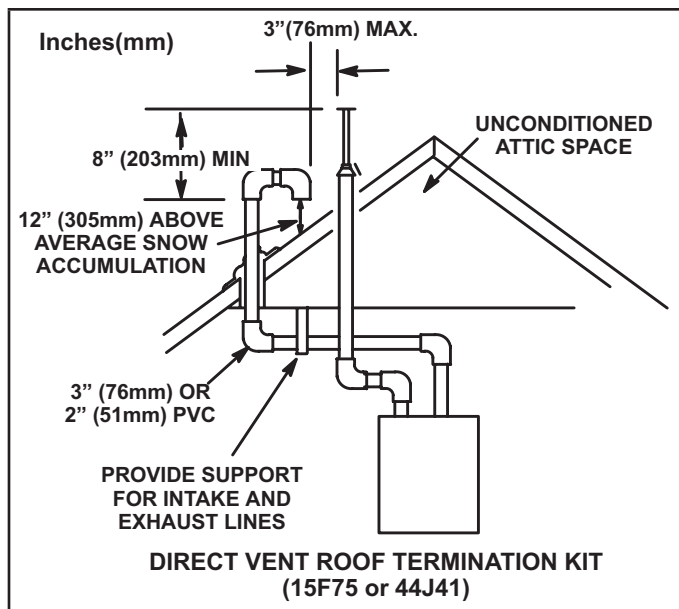
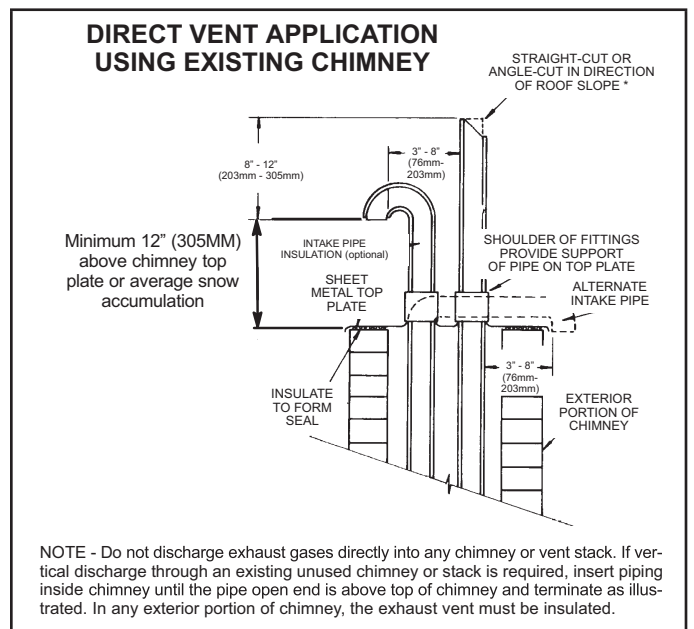

FIGURE 31
FIGURE 39
Intake and exhaust pipes may be routed either horizontally through an outside wall or vertically through the roof. In attic or closet installations, vertical termination through the roof is preferred. FIGURE 31 through FIGURE 39 show typical terminations.
- 3 - On roof terminations, the intake piping should terminate straight down using two 90° elbows (See FIGURE 31).